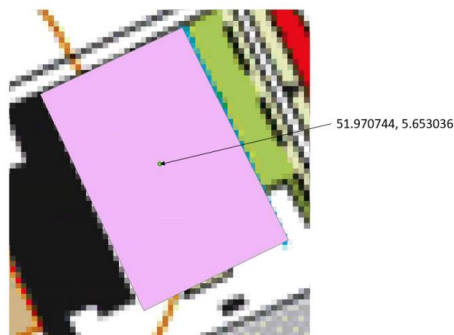

Figure 2: A homogeneous field; therefore, the entire field can be sampled.
- If the field is relatively uniform (homogeneous, Figure 2), a single sample can represent the entire area.